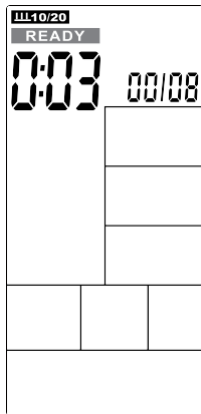

Figure 24
- ⑦ Press any PROGRAM key then perform the program accordingly.
- ① Press INIERVAL key to select INTERVAL20/10, press ENTER then **INTERVAL20/10** will light up, along with a long sound for 1s.
- ② Cycle time counts down from 3 to 0 then console start, meanwhile buzzer beeps once per second and **READY** flashes once per second, counting displays '00/08' (Figure 24).